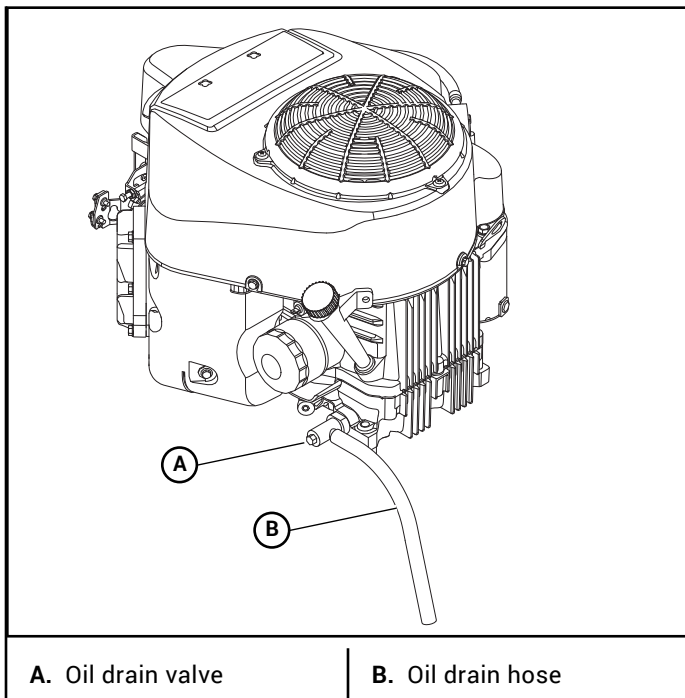

Figure 4-4
1. Locate the oil drain valve on the lower right side of the engine. Figure 4-4
2. Locate the oil drain hose that was supplied with the machine. Be sure to clean and clear it of debris that might block the flow of the engine oil. Figure 4-4
3. Attach one end of the hose onto the oil drain valve nipple. Make sure the hose is pushed all the way onto the valve. Figure 4-4